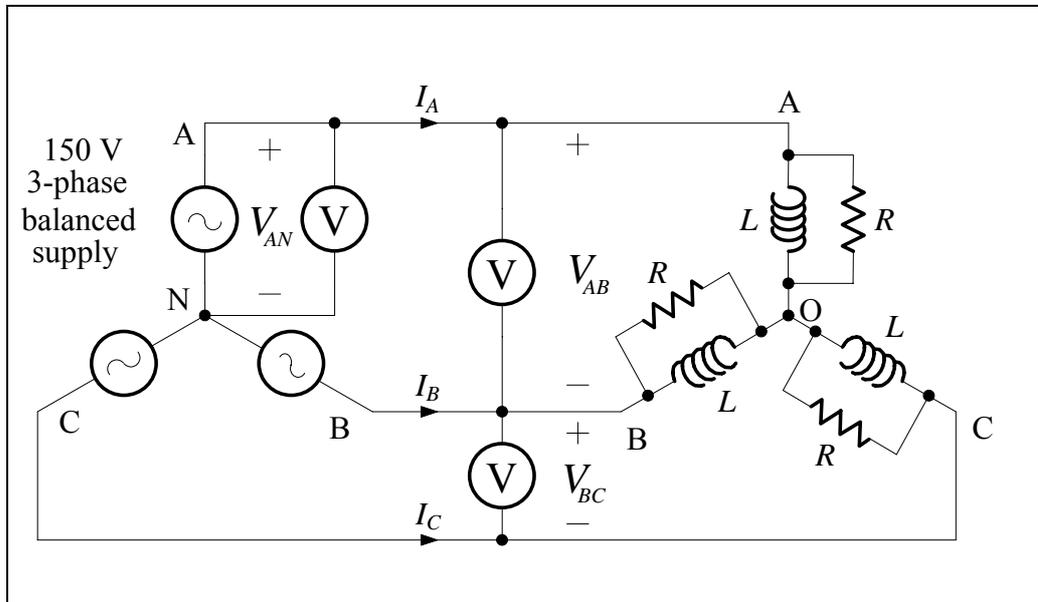

Figure 2.1 – Balanced three-phase circuit with lagging power factor
- 1.1 Calculate the value of capacitance C which has to be connected in parallel with every phase of the load to bring the load power factor to unity in the circuit of Figure 2.1. Calculate $|I_A|$, P_A , P_C and the total average power, as well as the total reactive power in the modified circuit. Record the results in Table 2.2.
3.1 Exchange the inductors L with $60\ \mu\text{F}$ capacitors in the circuit of Figure 2.1. Fill in Table 2.3 for this modified circuit.